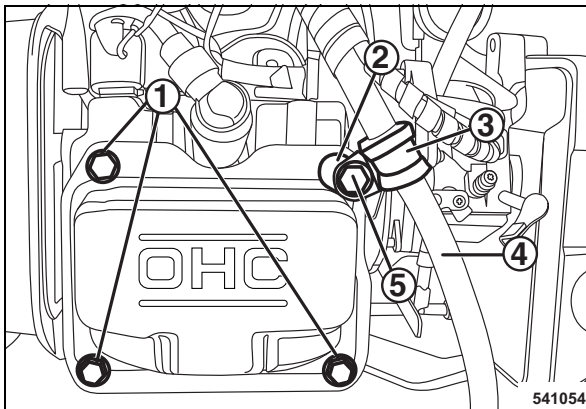

Fig. 49
- Unscrew the cylinder head fastening screws (1) (Fig. 49) and lay to the side.
- Unscrew the fastening screws (5); pull out spacer (2) and clamp (3) for throttle cable guidance (4).